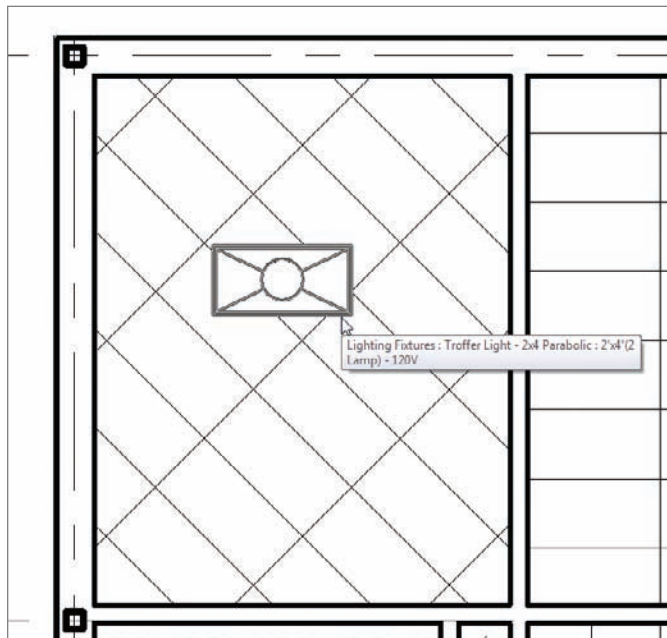

FIGURE 9.46 Placing a light in a ceiling. You will be aligning it to the grid in a moment.
2. Zoom in on the northwest corner of the east wing, as shown in Figure 9.46.
7. Click the Place A Component button; then place the fixture in your ceiling, as shown in Figure 9.46.